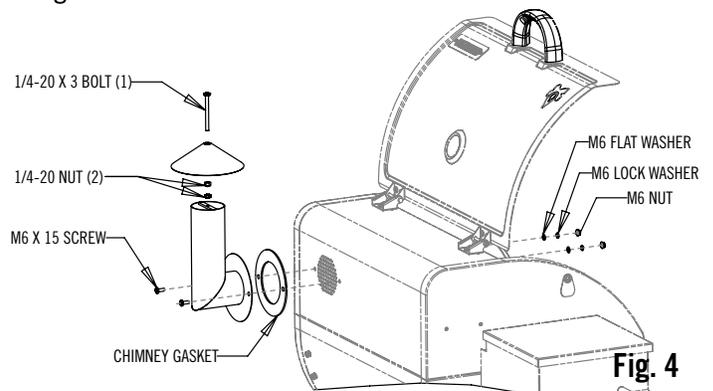

Fig. 4
1. Install chimney to grill as shown in Fig 4. Make sure to install the gasket between the grill and the chimney.
3. Install 1/4-20 x 3 Bolt through chimney cap and secure using Qty (1) 1/4-20 nut. Thread second nut onto bolt leaving approximately 1.5 in to the top of the cap. Thread cap assembly down into the chimney bracket until the lower nut hits the bracket. See Fig 4.